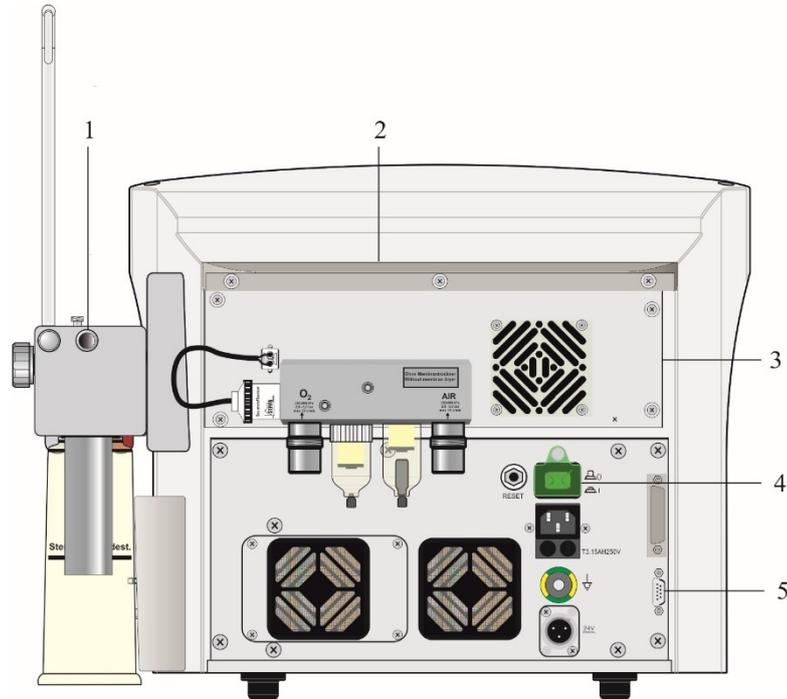

Fig. 25: Rear view
In order to be able to use the DP NEO PNT (from SW version PC 2.7x), the park position (item 1/ Fig. 25) on the back of the patient component has to be modified. Otherwise a test of this PNT is not possible.